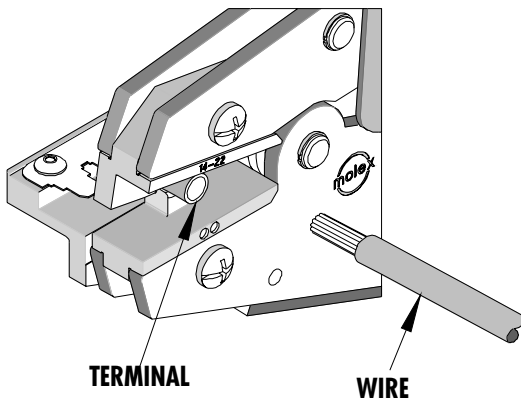

Figure 2
3. Partially close the tool to hold the terminal in place. (See Figure 2.)
4. Insert the properly stripped wire into the terminal barrel. See Figure 2 and 3. Cycle the tool.